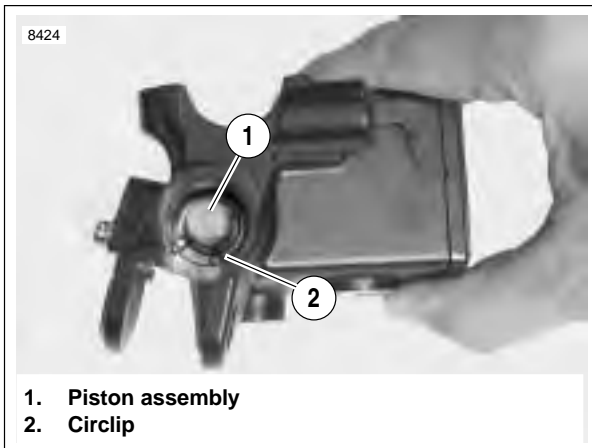

Figure 2-39. Piston Assembly in Master Cylinder
4. See Figure 2-39. Depress piston assembly (1) and remove internal circlip (2) and discard.
5. See Figure 2-39. Secure piston assembly (1) with a **new** circlip (2).